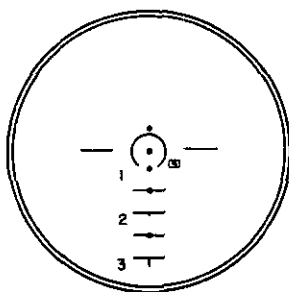

FIGURE 59.
18. The smoke from the second burst completely hides the target, as shown in the sight-picture (fig. 59). Was the target hit?